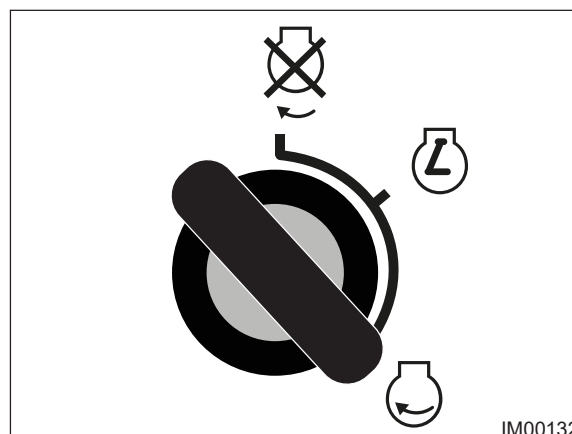

Fig: 5.5 - Ignition Crank Position
8. Once the display has powered up, rotate the Ignition Key to the Crank position and hold (Fig: 5.5).